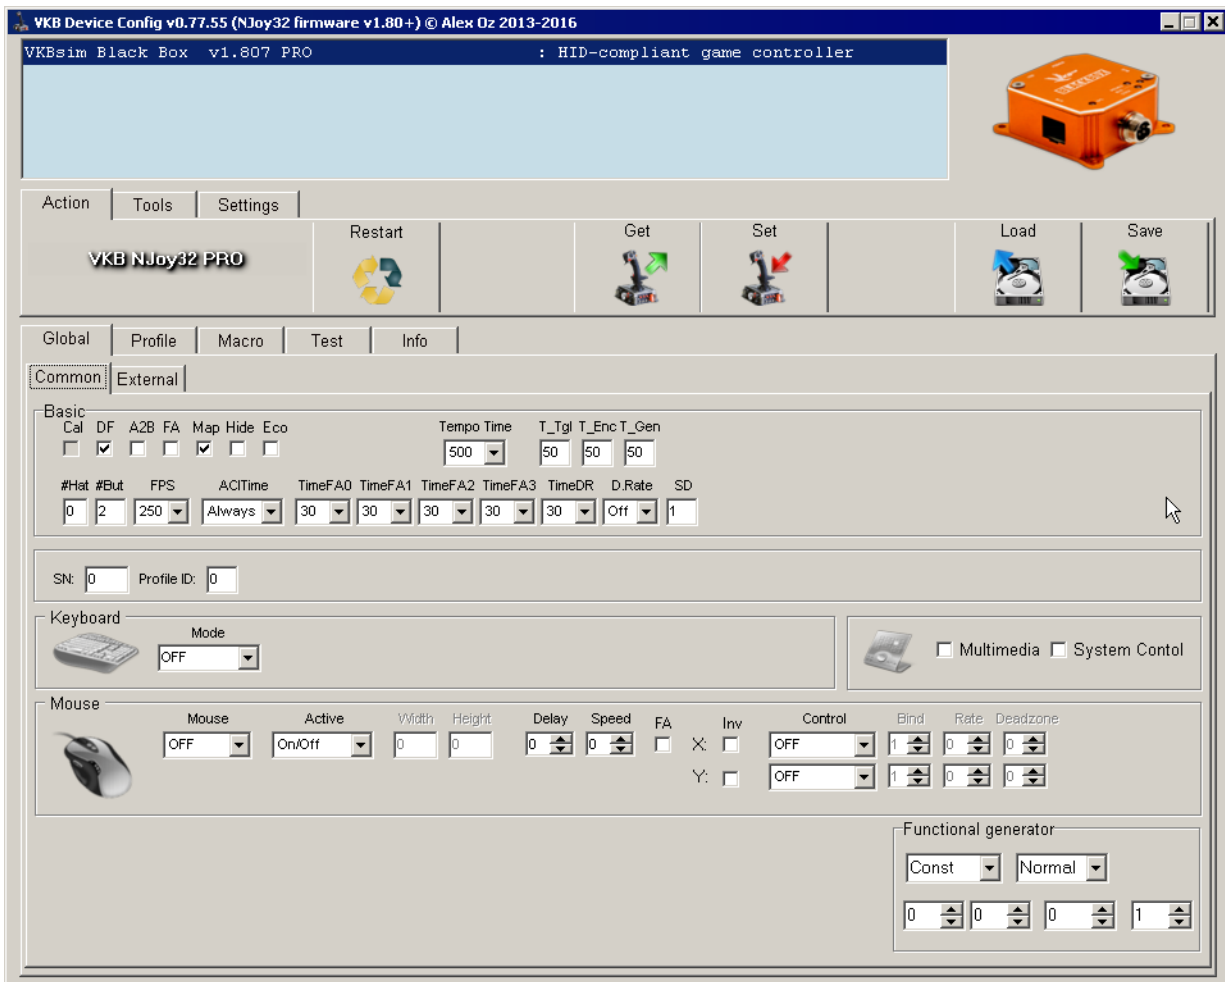

Fig. 1.1.
After you run configurator you will see its window (fig. 1.1). Title bar contains version of the program.
2. Run *VKBDDevCfg-C.exe*, select joystick name in the list (fig. 1.1 on p. 6).